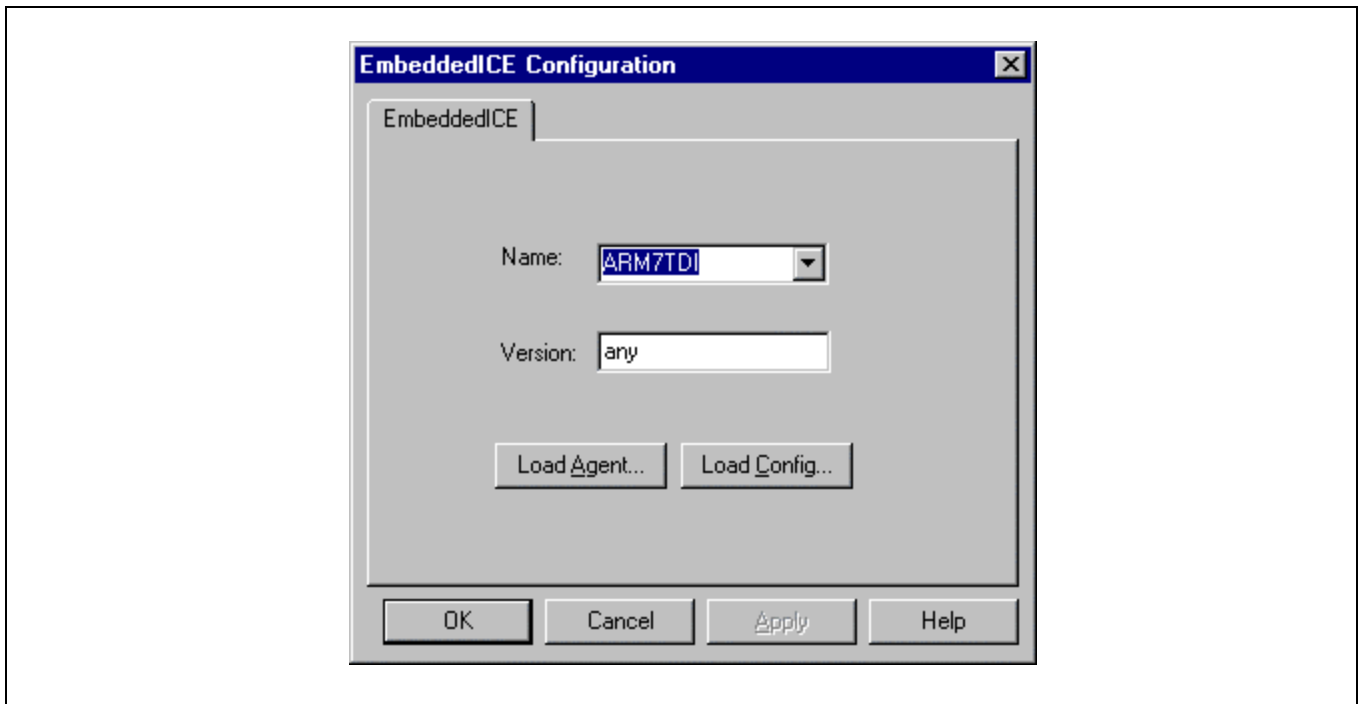

Figure 2-18. EmbeddedICE Configuration
8. EmbeddedICE Configuration dialog box is displayed (Figure 2-18).